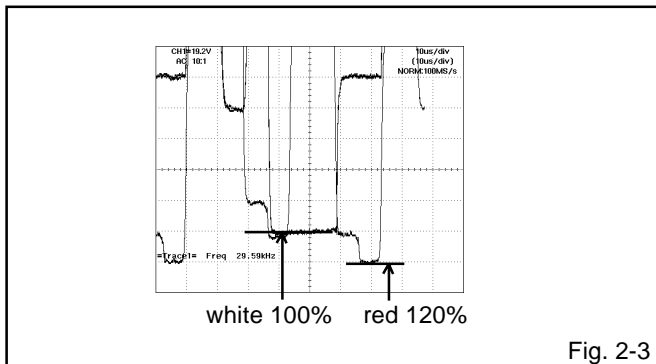

Fig. 2-3
7. Press the VOL. UP/DOWN button on the remote control until the red color level is adjusted to  $120 \pm 10\%$  of the white level. **(Refer to Fig. 2-3)**